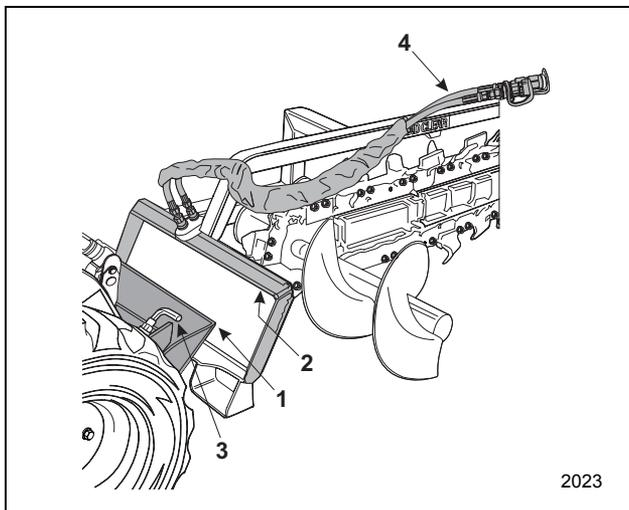

Figure 3-26 Hydraulically Powered Attachment Installation
3. Slowly drive towards the attachment and align the top edge of the male mounting plate (Item 1, Figure 3-26) and the upper lip of the female attachment mounting plate (Item 2, Figure 3-26).
**NOTE:** Make sure to position the attachments hydraulic hoses (Item 4, Figure 3-26) so that they are not damaged during the installation process. Tuck the upper edge of the male mounting plate into the upper lip of the female attachment mounting plate.